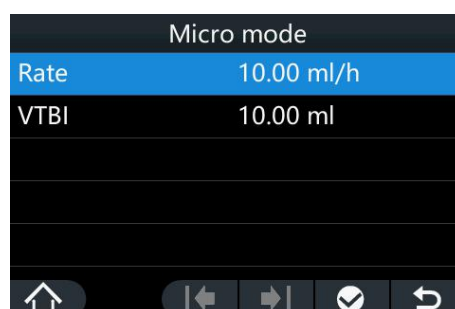

Figure 5-5
2. Select menu “” option → “Mode” → “Micro mode” to enter the interface as shown in Figure 5-5.